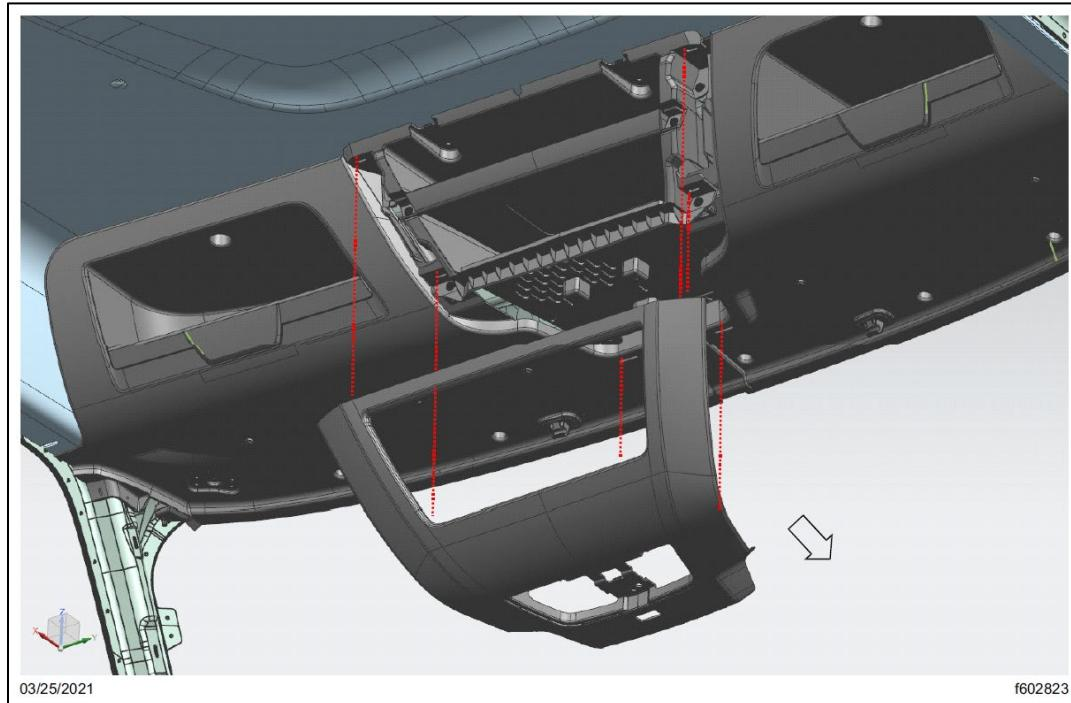

Fig. 31, Position and Attach Center Bezel
7.6. Place the center bezel by inserting the pillar clips into the slots in the center overhead storage bin, and the LH and RH side overhead storage cabinets. See Fig. 31.